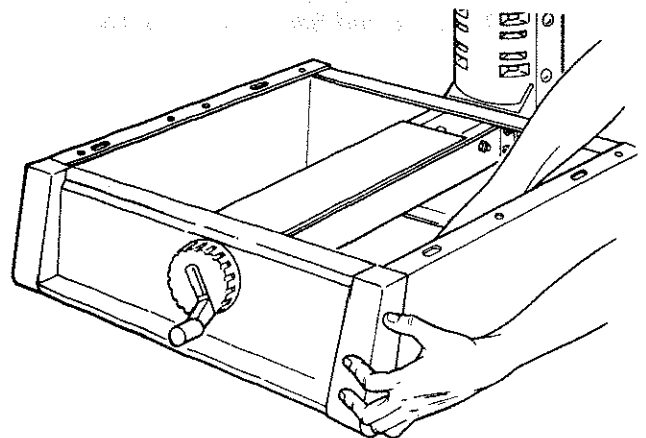

Fig. 23
3. Hold the *right trim cap* in place on the front side of the *saw*. (Figure 23)